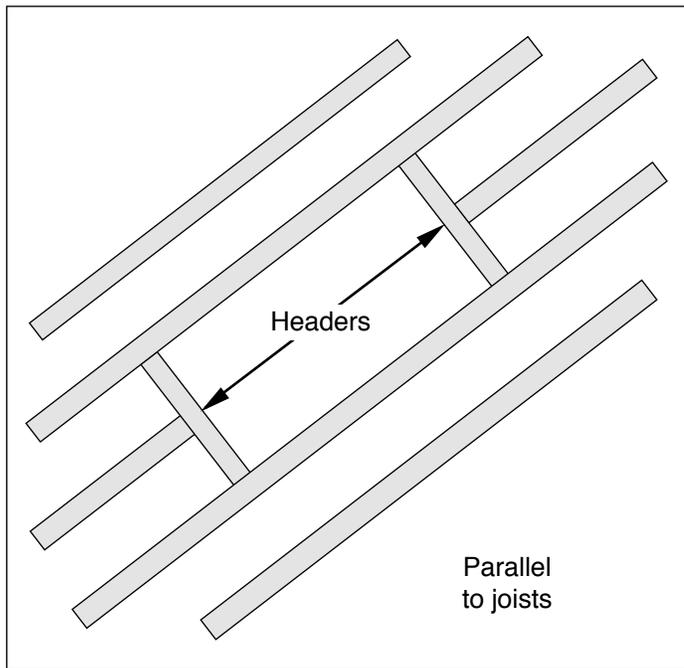

Figure 3
- \* Cut and securely nail headers (blocking) of the same joist dimensions to the joists as shown in Figures 3 and 4. Be sure to nail all cut joists to headers. When installing perpendicular to joists as in Figure 4, it is advisable to double up the headers for more strength and rigidity.